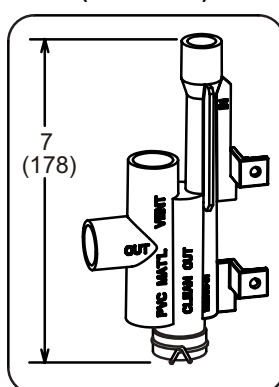

Figure 48. TRAP / DRAIN ASSEMBLY USING 1/2" PVC OR 3/4" PVC COLD END HEADER BOX WITH 1/2" DRAIN CONNECTION
3. Install the cap over the clean out opening at the base of the trap. Secure with clamp. See Figure 47 or Figure 48.
4. Install drain trap using appropriate PVC fittings, glue all joints. Glue the provided drain trap as shown in Figure 47 or Figure 48. Route the condensate line to an open drain. Condensate line must maintain a 1/4" downward slope from the furnace to the drain.
5. Figure 47 shows the furnace and evaporator coil using a separate drain. If necessary, the condensate line from the furnace and evaporator coil can drain together. See figures 48 and 46. The field provided vent must be a minimum 1" to a maximum 2" length above the condensate drain outlet connection.